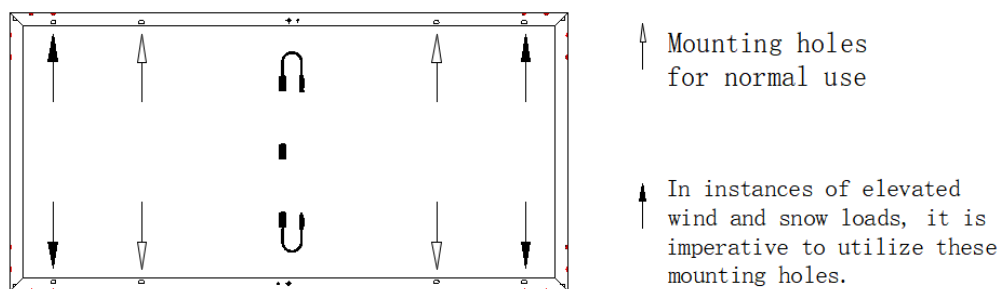

FIG 4 Mounting holes
- The frame of each module has 4 mounting holes used to secure. As shown in Figure 4, four mounting holes are needed in normal. If in the condition of sustaining higher load, please consult VSUN customer service or technical support team.